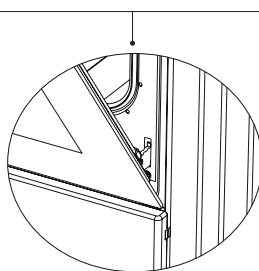

Figure 21.1
3. Afterwards, close the oven door as to lean on the hinge lock as shown in figure 21.1.